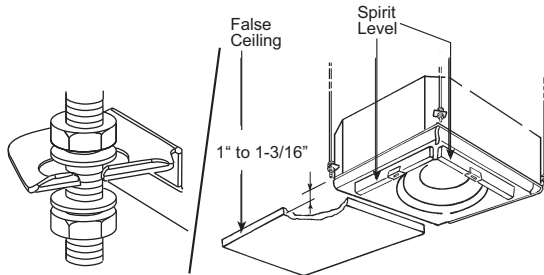

Fig. 11 - Align and Level Unit
- g. Carefully lift the unit using the four suspension brackets and insert the four suspension brackets into the threaded hanger as shown in Fig. 11.
- h. Align and level the unit by adjusting the nuts and lock-nuts on the threaded hangers maintaining a distance of 1 in. to 1-3/16 in. between the sheet metal body and the underside of the false ceiling. See Fig. 11.